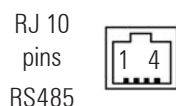

Fig. 23. RJ10 connector (CN13) for RS-485 in BM491*.
- In the same BM491* option board, there is another port, a RS-485 through a RJ10 connector (CN13) of 4 pins (see figure 23).